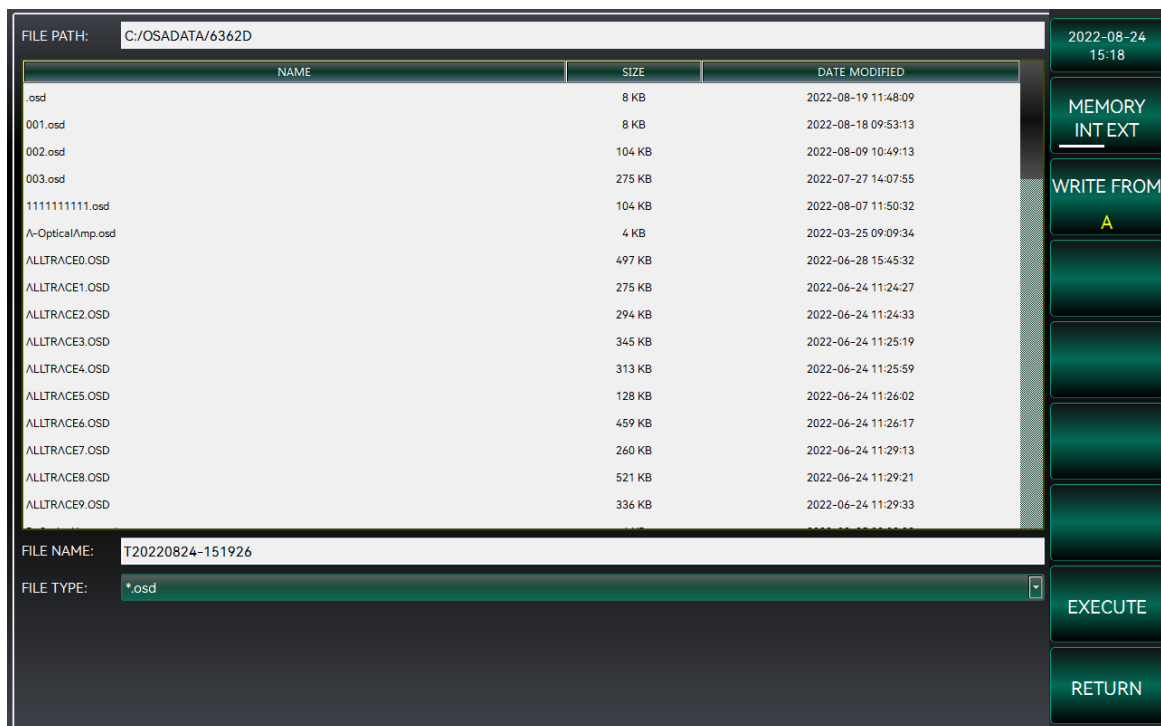

Figure 3-16 File save interface diagram
- When the [Save] option is selected, the system will enter the file processing interface, as shown in Figure 3-16.